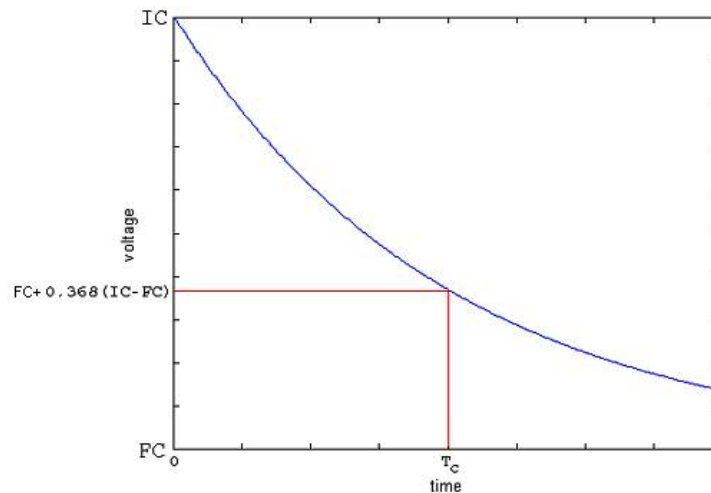

Figure 4. Oscilloscope display of exponential decay waveform
- b. Adjust the scope's horizontal and vertical position knobs and the trigger slope and level so that the waveform is completely visible (zoom in), but fills the scope face. Line up the **start** of the exponential waveform with the vertical grid line on the left edge of the scope face. Set the horizontal scale (time base) so the trace looks something like Figure 4. It is not necessary that you be able to see 5 time constants; but it is good practice to expand the display so that at least 50% of the scope face is used for measurements (as shown in Figure 4).
- c. Method 1 of MEASURING the time constant This method uses no calculations and uses the definition of the time constant to measure it. The time constant is defined as the time it takes the voltage to decay by a factor of $(1/e)$ of the voltage difference $(IC-FC)$, or rise by a factor of $(1-1/e)$ of the voltage difference $(IC-FC)$. The decay case is depicted in figure 4 above.
- d. Method 2 of MEASURING the time constant T_C — curve fitting: **Use Benchlink Scope as described in Appendix 1.** This display will be analyzed as part of your lab write up. Because you will use this display to determine T_C it is very important that you adjust the voltage sensitivity to get a display similar to that shown in Figure 4. You can use the oscilloscope's vertical positioning adjustment to accurately place the waveform's start at the left top of the screen.
- Determine $(IC - FC)$ from your first printout. This value of $(IC - FC)$ should be the peak-to-peak voltage of the source and should be near 8 V. Locate the voltage $0.368 \cdot (8 \text{ V}) = 2.94 \text{ V}$ from FC on your printout. This should typically be about one third of the way up from the bottom of the oscilloscope display (as shown in Figure 4). This voltage level is significant because one time constant has elapsed when the exponential has decayed to 36.8% of the difference between the initial voltage and the final voltage. Determine this time T_C from your plot.